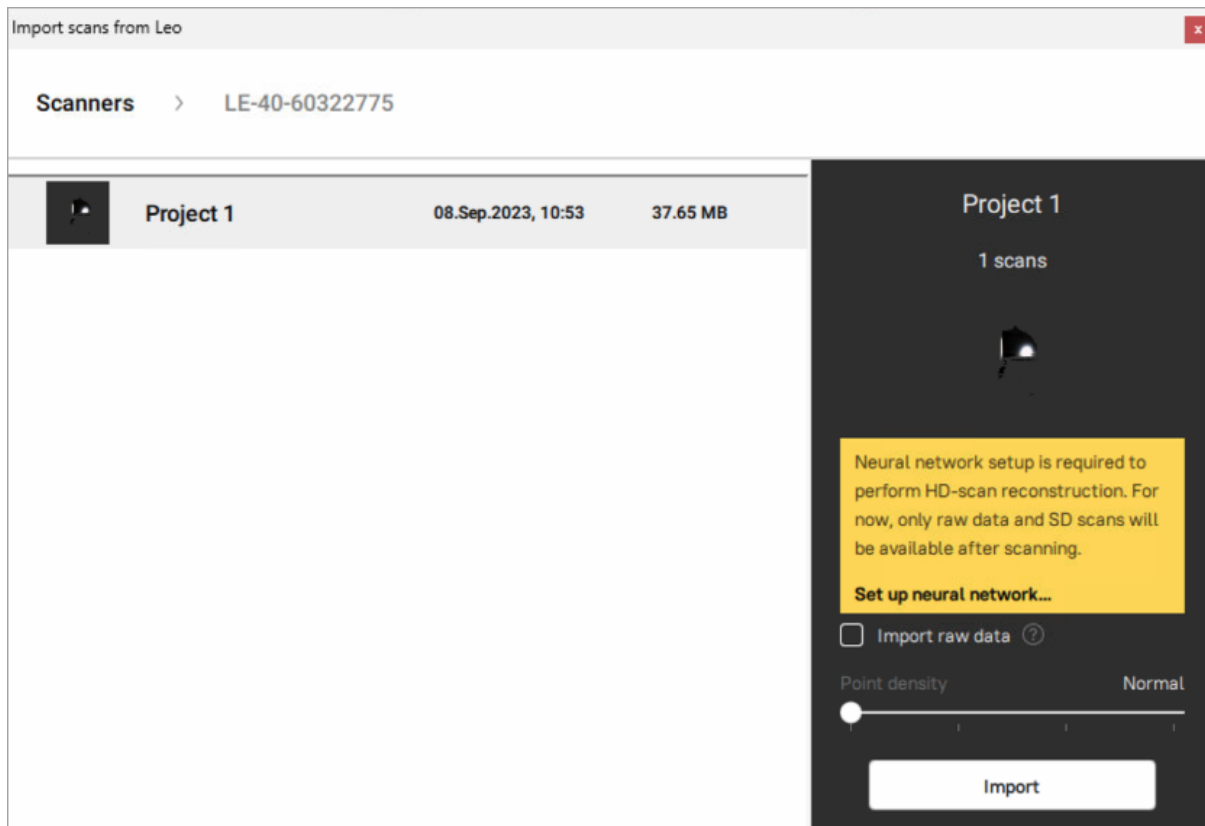

Figure 114: Dialog for selecting Leo projects to import.
5. Then using either LMB or ↑ and ↓ select the project that you want to load (Figure 114)